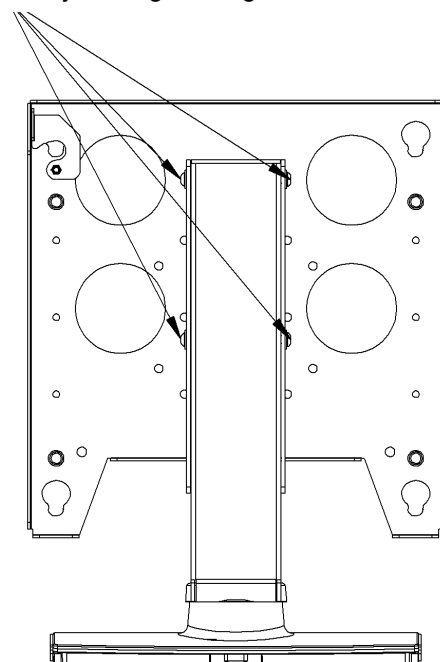

Figure 7. Height Adjustment
1. Loosen the four height adjustment screws and raise the slide to its maximum height (see Figure 7).
5. Raise the slide to its maximum height (see Figure 7).
1. While holding the display in place, loosen the four height adjustment screws (see Figure 7).
3. Tighten the four height adjustment screws (see Figure 7).